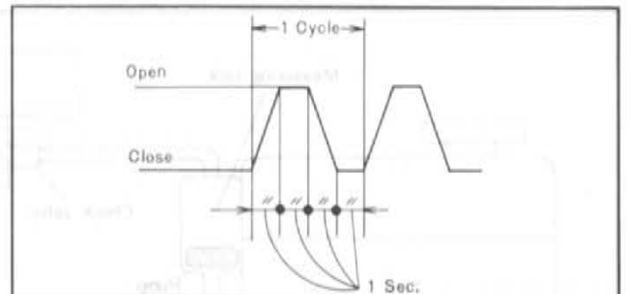

Fig. 4-16 Test pattern
5. Fully operate the throttle valve ten times according to the cycle as shown in Fig. 4-16 by means of the throttle lever or accelerator pedal and check the amount of discharge by reading the decrease of fuel in the burette.